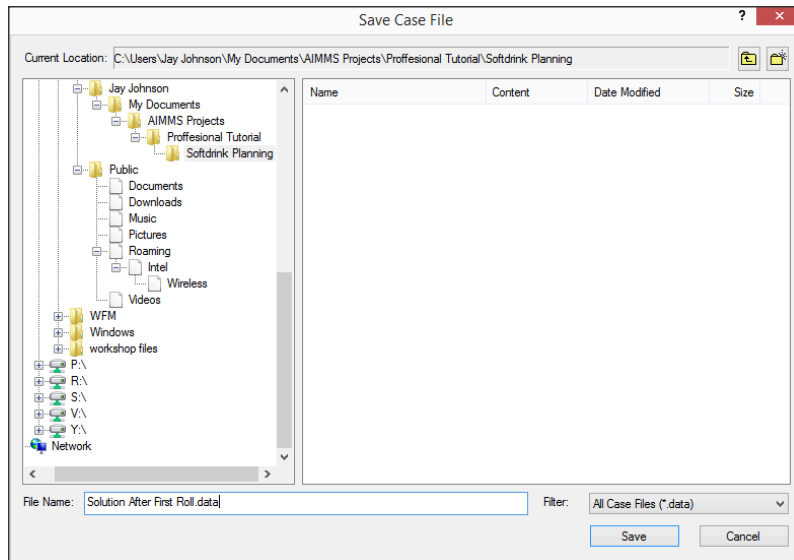

Figure 14.1: Creating your first case
- ▶ press the **Save** button (see Figure 14.1).